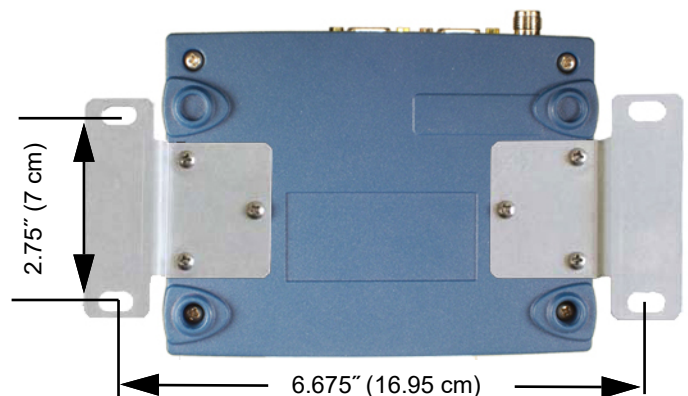

Figure 4. Mounting Bracket Dimensions
1. **Mount the transceiver** using the brackets supplied. Attach the brackets to the bottom of the transceiver case (if not already attached), using the 6-32 x 1/4 inch (6 mm) screws supplied. Mounting bracket dimensions are shown in Figure 4. If DIN Rail mounting brackets are used, consult the *Reference Manual* for details.